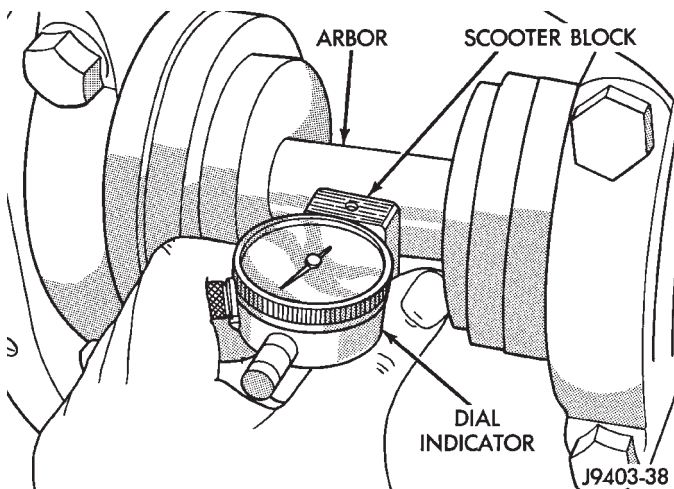

Fig. 60 Pinion Gear Depth Measurement—Typical
(7) With scooter block still in position against the pinion height block, slowly slide the dial indicator probe over the edge of the pinion height block.
(8) Slide the dial indicator probe across the gap between the pinion height block and the arbor bar with the scooter block against the pinion height block (Fig. 60). When the dial probe contacts the arbor bar, the dial pointer will turn clockwise. Bring dial pointer back to zero against the arbor bar, do not turn dial face. Continue moving the dial probe to the crest of the arbor bar and record the highest reading. If the dial indicator can not achieve the zero reading, the rear bearing cup or the pinion depth gauge set is not installed correctly.